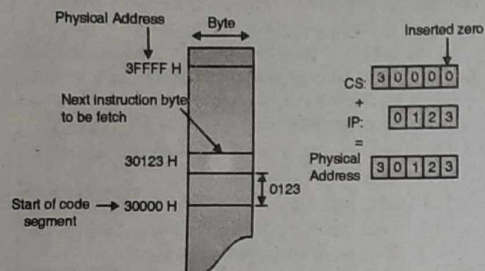

Fig. 1.6.2 : Physical address generation for Code Segment
- Fig. 1.6.2 shows the calculation of physical address from CS and IP.